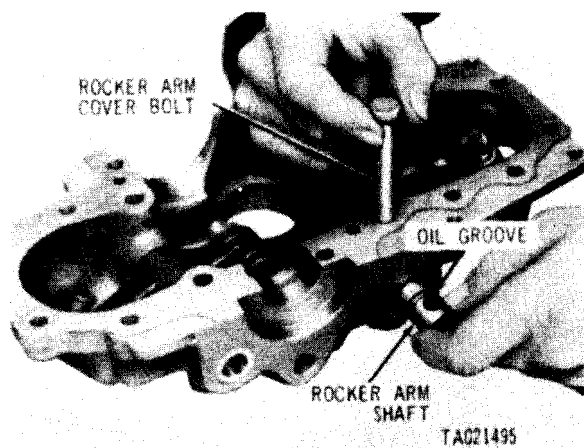

Figure 2-92. Installing valve rocker arms in rocker cover.
(1) Position valve rocker arms in rocker arm cover and insert valve rocker arm shaft (fig. 2-92) through bore in rocker arm cover and rocker arm. Use one rocker arm cover bolt (fig. 2-92) to align hole in shaft with bolt hole in cover. Push shaft into position without twisting, to retain alignment. Install rocker arm shaft plugs (fig. 2-90) and valve adjusting screws (fig. 2-89).